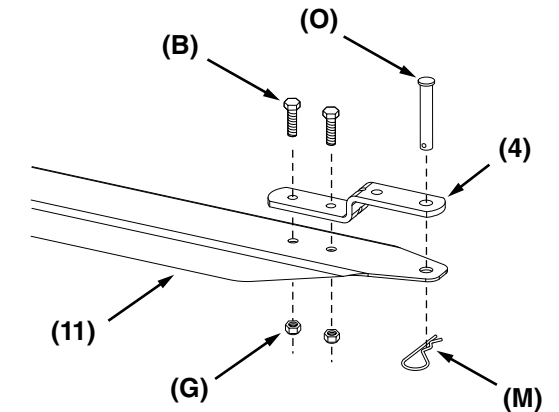

Figure 16
STEP 16 (SEE FIGURE 16): Attach the hitch bracket (4) to the tongue (11) using two 3/8" x 1" hex bolts (B) and 3/8" nylock nuts (G). Insert the hitch pin (O) and secure with 1/8" hair cotter pin (M).